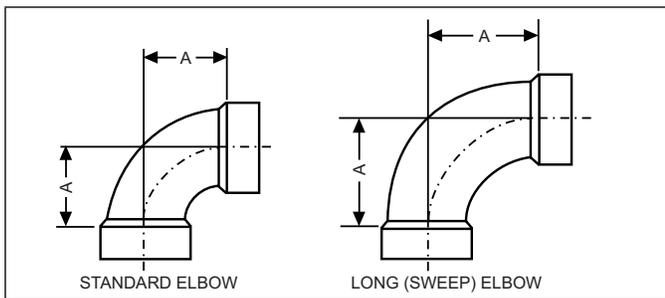

FIGURE 25: Dimensions
1. Drain, waste, and vent (DWV) elbows with a long radius (sweep) are recommended. Standard DWV elbows may be used, but since they have a longer equivalent length, they will reduce the total length of pipe that will be allowed. Short radius (plumbing or pressure) elbows are not allowed for venting. The standard dimensions of the acceptable elbows are shown in Figure 25 and Table 10.